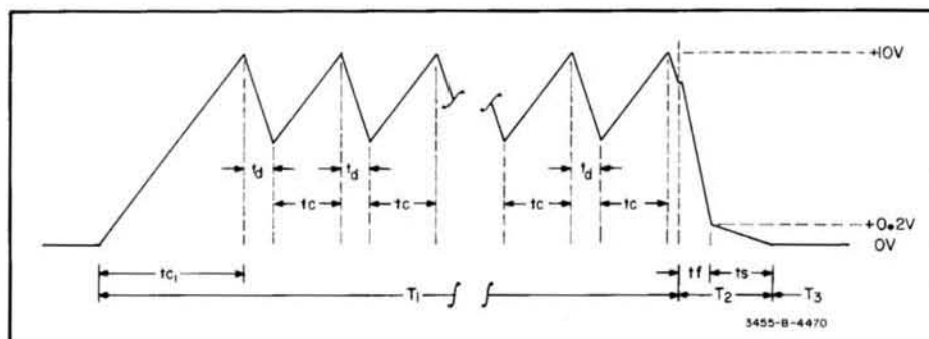
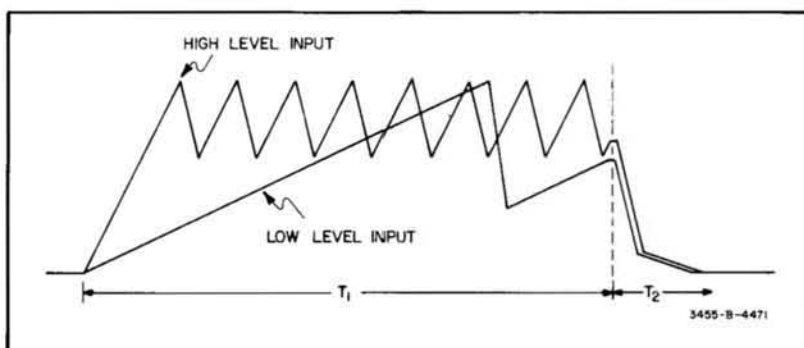

Figure 8-26. Integrator Output Waveform.
Figure 8-27. Integrator Output Waveforms for Different Input Voltage Levels.
8-89. The 3455A Multimeter uses a multi-slope integration technique to convert analog input signals to digital information. This method permits relatively high speed, high accuracy measurements. The following explanation of the A/D Converter operation uses the integrator output waveform pictured in Figure 8-26. The waveform shown is for a negative input voltage. For positive inputs the integrator output would range between 0 and - 10 volts. This waveform can be divided into three major portions: the integration period (time  $T_1$ ), the run-down period (time  $T_2$ ) and the auto-zero period (time  $T_3$ ). During time  $T_1$ , the input voltage is integrated and the most significant digits of the output reading are determined. During time  $T_2$  the input voltage is removed and the charge remaining on the integrator capacitor is used to determine the least significant digits of the output reading. During time  $T_3$ , the integrator is reset to approximately 0 volts and readied for the next reading. At time  $T_0$ , the input voltage from the DC Preamp is applied to the A/D converter and causes the integrator capacitor to charge (period  $t_{c1}$ ). The rate at which the integrator capacitor charges depends upon the amplitude of the input voltage applied (see Figure 8-27). If the voltage at the output of the integrator reaches plus or minus 10 volts the 10 V comparator is enabled and interrupts the inguard controller. The controller switches in a reference current opposite in polarity amount of time (period  $t_d$ ) and causes the integrator to discharge. At the end of period  $t_d$ , the reference voltage is removed allowing the integrator to again charge (period  $t_c$ ). This charge, discharge sequence may be repeated throughout integration period  $T_1$ .
cycles. The number of charge-discharge cycles depends upon the input voltage applied (as shown in Figure 8-27) and whether the voltmeter is in the 5 or 6 digit readout mode. For the 5 digit mode, time  $T_1$  is 1/60 second (1/50 second for 50 Hz operation) and approximately 16 charge-discharge cycles occur for a full scale input. During 6 digit operation, time  $T_1$  is increased to 8/60 second (8/50 second for 50 Hz operation), allowing approximately 127 charge/discharge cycles to occur for a full scale input.
8-93. **Input and Reference Switching.** The A/D input and reference switching is controlled by the inguard controller. The input from the DC Preamplifier is applied to the integrator input through a 19.8 kilohm resistor ( $R_{15}$ ) and FET switch  $Q_3$ . The integrator charge current due to the input voltage is established by  $R_{15}$  and is equal to the input voltage divided by 19.8 kilohms. FET switch  $Q_3$  is closed throughout the integration period (time  $T_1$ , Figure 8-26) and is open during periods  $T_2$  and  $T_3$ .
iod (time  $T_1$ , Figure 8-26). For inputs less than 10 volts the output of the 10 volt Detect Amplifier is near 0 volts. As the input reaches 10 volts the output switches to approximately +5 volts.
**8-102. 0.2 volt Detect Amplifier.** The purpose of the .2 volt Detect Amplifier is to detect when the integrator has discharged to approximately .2 volts during period  $T_2$  (Figure 8-26). This information is used by the inguard controller in determining the point to remove the "fast-discharge" reference and apply the "slow-discharge" reference.